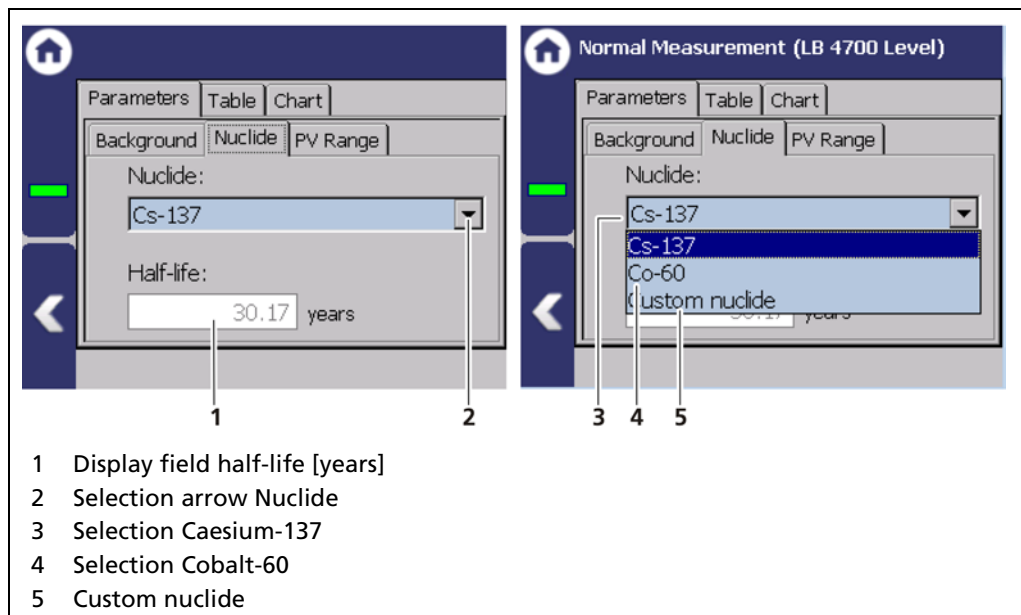
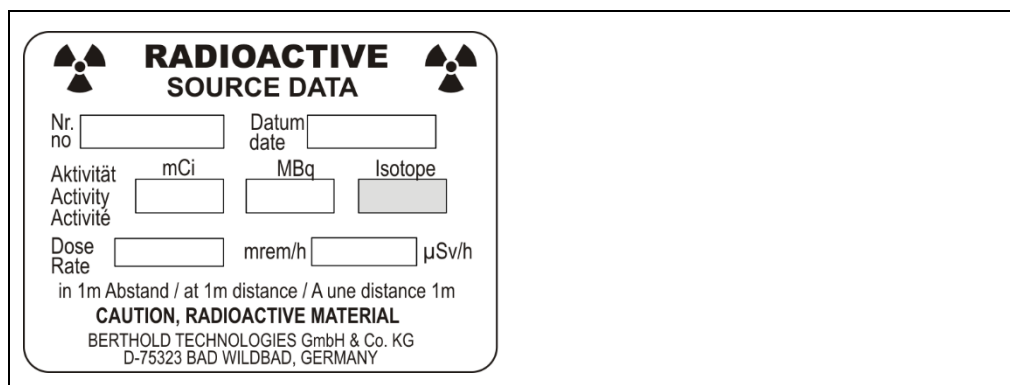

Fig. 67 Calibration Parameters: Nuclide
Fig. 68 Type Plate Source
The isotope used can be selected in the "Nuclide" tab. The half-life of the isotope is shown on the display field (Fig. 67, item 1).
1. Click on the selection arrow (Fig. 67, item 2).
2. Select the isotope used. Cs-137 (Fig. 67, item 3) or Co-60 (Fig. 67, item 4). The isotope of the source is on the type plate of the source (Fig. 68). Note the operating manual of the shield.
3. When selecting "Custom nuclide" (Fig. 67, item 5), the half-life of the isotope can be entered.